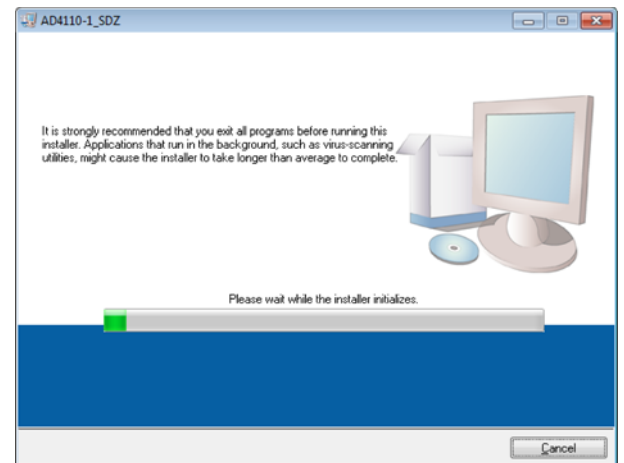

Figure 5. Installer Initialization Window
4. The installer initialization window appears briefly (see Figure 5).